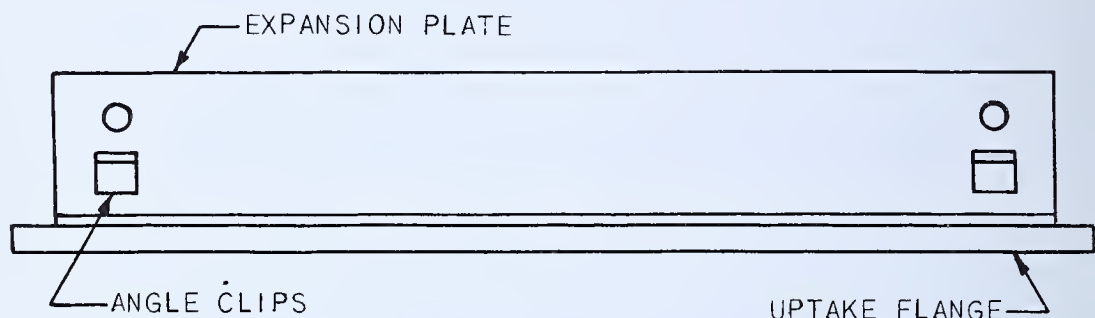

FIG. 566 — *Uptake Flange and Expansion Plate*
2. Place and fix expansion plates on the inside of the angle frame, and tack weld them to the opposite toe of the angle as shown in Fig. 566, and Drawing 241-880-2, Detail B.
4. Tack weld 16 pieces of 2" x 2" x 1/4" angle, 2" long, to expansion plates as shown in Fig. 566.